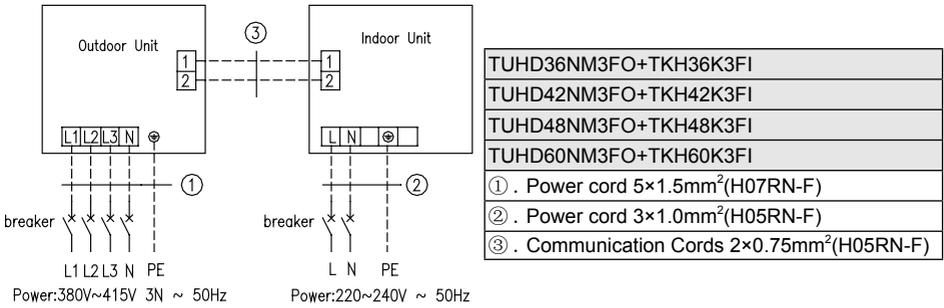

Fig.41
- ① . The power cord and the wire of the fresh air valve are high-voltage, while the communication cord and connection wire of the wired controller are low-voltage. They should run separately against electromagnetic interference.
- ② . The high-voltage and low-voltage lines should pass through the rubber rings at different electric box covers.
- ③ . Do not bundle the connection wire of the wired controller and the communication cord together, or arrange them in parallel, otherwise improper operation would occur.
- ④ . The high-voltage and low-voltage lines should be fixed separately and securely, with internal big clamps for the former and small clamps for the latter.
- ⑤ . Tighten the indoor/outdoor connection cord and power cord respectively on the terminal boards with screws. Faulty connection may cause a fire.
- ⑥ . If the indoor unit connection cord (to the outdoor unit) and power supply are wired incorrectly, the air conditioner may be damaged.
- ⑦ . Connect the indoor unit connection cord properly based on the corresponding marks as shown in Fig.41.
- ⑧ . Ground both the indoor and outdoor units by attaching a ground wire.
- ⑨ . Unit shall be grounded in compliance with the applicable local and national codes.